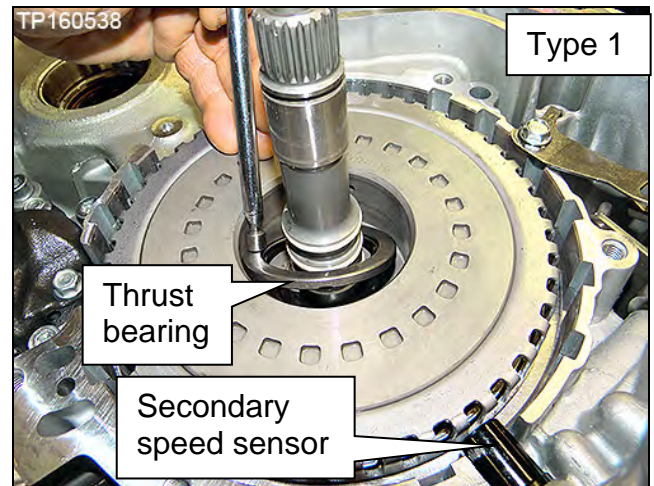

Figure 21B
14. For **Type 1** remove the thrust bearing from the clutch assembly (Figure 21B) and then proceed to step 16.
16. Wipe any metallic debris off of the face of the secondary speed sensor (Figure 21B).